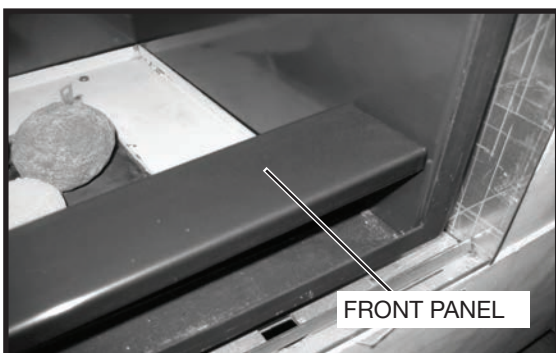
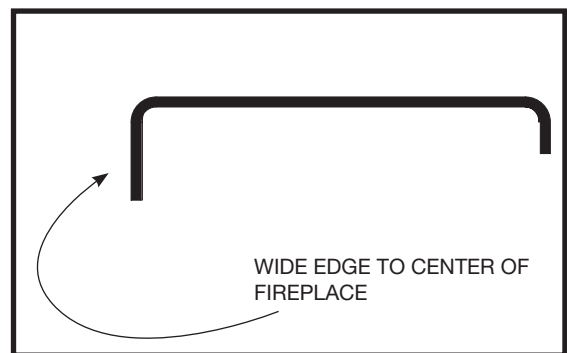

Figure 53: Front panel.
Figure 54: Front panel - side view.
7. Place the front panel on the front lip of the firebox, wide flange facing the center of the fireplace. (Figure 53 and Figure 54).